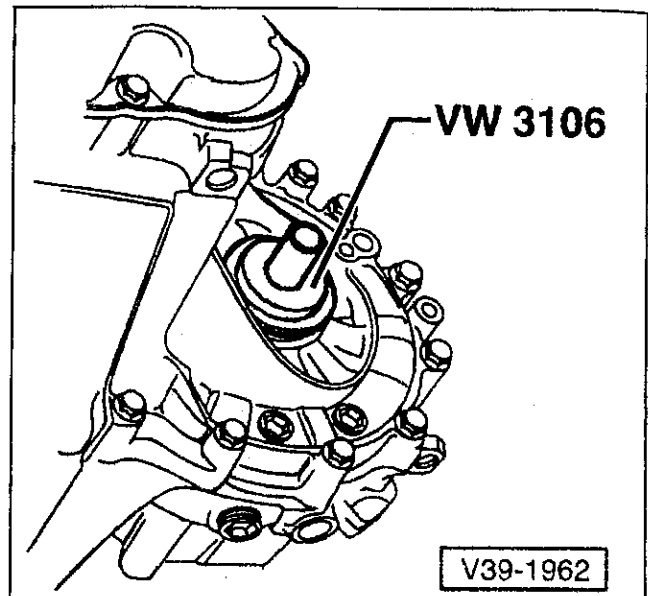

Fig. 14. Drive flange oil seal being installed with seal driver (Volkswagen special tool no. VW 3106).
1. Fill space between lips of new oil seal with multi-purpose grease. Then drive seal in against shoulder. See Fig. 14.